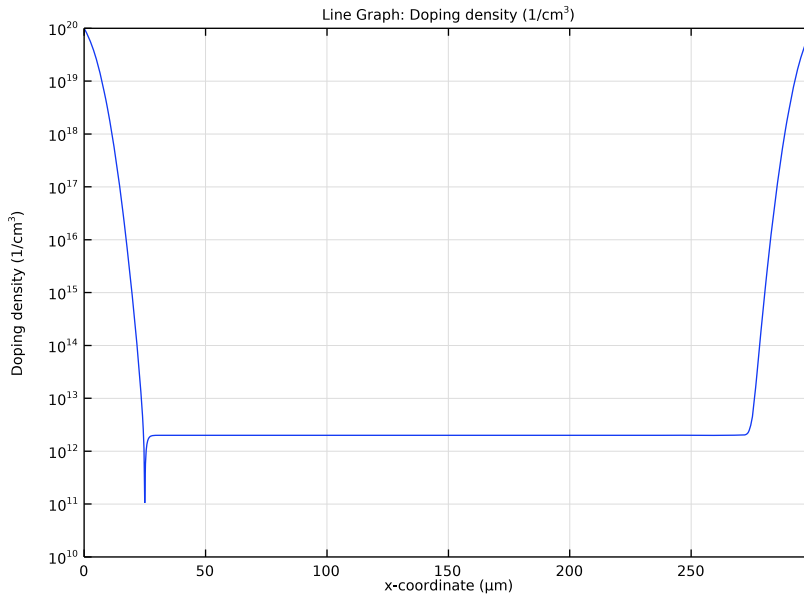

Fig. 4A Hole Distribution
- 2 In the **Settings** window for **ID Plot Group**, type Fig. 4A Hole Distribution in the **Label** text field.
- 1 In the **Model Builder** window, expand the **Fig. 4A Hole Distribution** node, then click **Line Graph 1**.
- 8 In the **Fig. 4A Hole Distribution** toolbar, click  **Plot**.
- 1 In the **Model Builder** window, right-click **Fig. 4A Hole Distribution** and choose **Duplicate**.